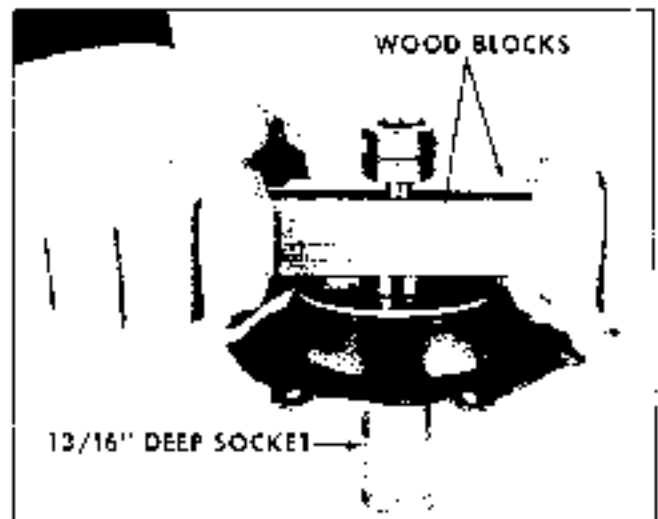

Fig. 4-24 Installing Diphenon Valve
1. Install new concrete washer, oil plate (unless damaged), new diaphragm (with water lip toward second stage of piston) and second plate (Fig. 4-24).